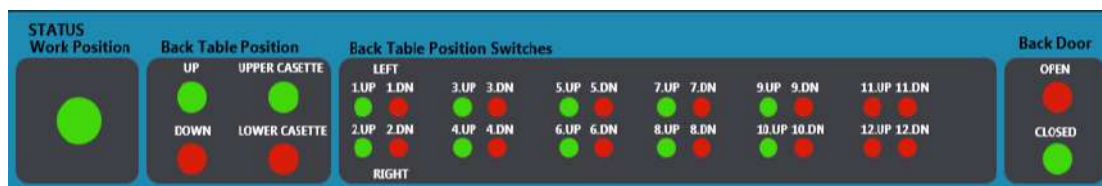

Figure 56
In **Figure 56** red circular rounds are shown that the signal has not been coming and green ones are shown the signal has been coming actually.
- **WORK POSITION:** In this area the status of work position can be seen by operator. If regarding signal is green as **Figure 56** that means one of cassette is located in the cutting area of the machine.
- **UP POSITION:** In this area the status of up position can be seen by operator. If regarding signal is green as **Figure 56** that means all the hydraulic pistons are at up position. If one or more hydraulic pistons are not at up position that status signal will be red.
- **DOWN POSITION:** In this area the status of down position can be seen by operator. If regarding signal is green as **Figure 56** that means all the hydraulic pistons are at down position. If one or more hydraulic pistons are not at down position that status signal will be red.
- **UPPER CASSETTE:** In this area the status of upper cassette position can be seen by operator. If regarding signal is green as **Figure 56** that means one of cassette is located at the back and upper rail normally.
- **LOWER CASSETTE:** In this area the status of lower cassette position can be seen by operator. If regarding signal is green as **Figure 56** that means one of cassette is located at the back and lower rail normally.
- **BACK TABLE POSITION SWITCHES:** In this area the status of all limit switches for hydraulic pistons can be seen by operator as **Figure 56**.
- **BACK DOOR:** In this area the status of the openable back door can be seen by operator. If CLOSED signal is green as **Figure 56** that means the back door is closed correctly.
- **IN:** This key is used to move the cassette manually from back area to cutting area with lower speed manually. When this key button is pressed continuously the cassette moves forward direction until work position signal turns to green as **Figure 56**. When work position signal turn to green the cassette movement is stopped by system.